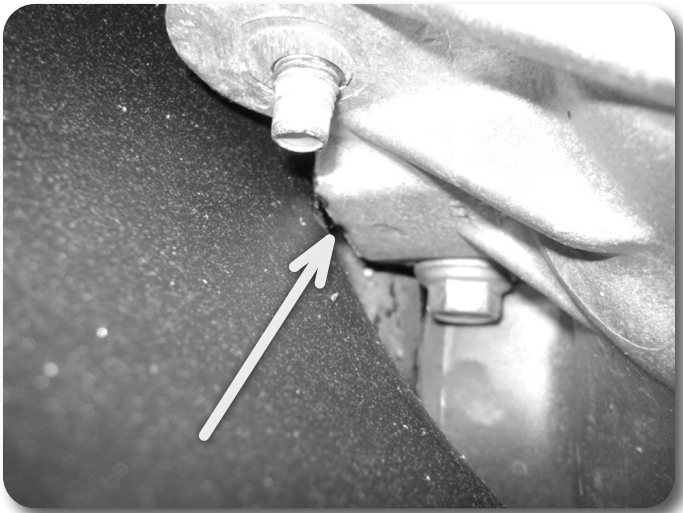

Figure 5
12. The differential area on the driver's side will need to have a small chamfer ground into it for clearance when the differential is lowered. Locate the area shown and use a rotary die grinder tool to put a small 1/4" wide chamfer onto the differential, not much material is required to be removed. Figure 5